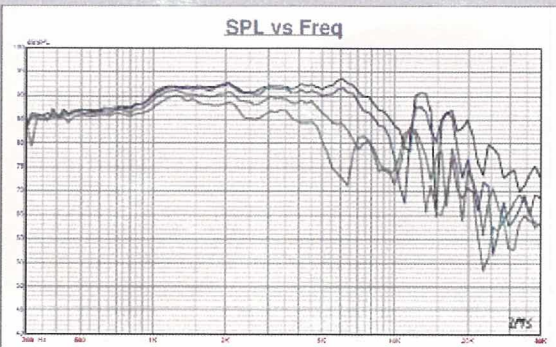

Figure 12: Scan-Speak 12MU/4731T00 on- and off-frequency response
**Figure 12** shows the on- and off-axis frequency response at 0°, 15°, 30°, and 45°. The  $-3$  dB at 30°, with respect to the on-axis curve, occurs at 4 kHz, so a 4- to 5-kHz crossover frequency